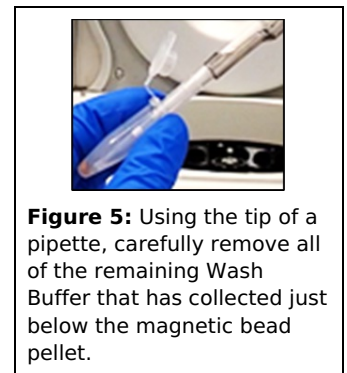

Figure 5: Using the tip of a pipette, carefully remove all of the remaining Wash Buffer that has collected just below the magnetic bead pellet.
- Use a 20 μL pipette to remove the remaining Wash Buffer from the tubes (Figure 5).